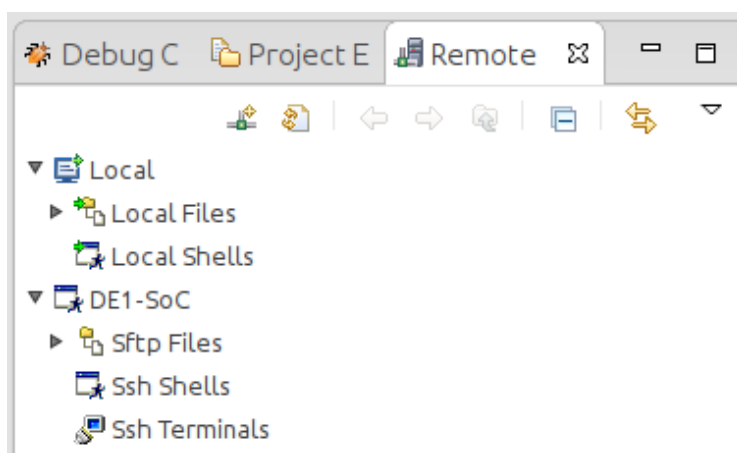

Figure 13-13. New SSH Connection In “Remote Systems” View
79. You should be able to see the remote system in *ARM DS-5*'s “Remote Systems” view, as shown in Figure 13-13.